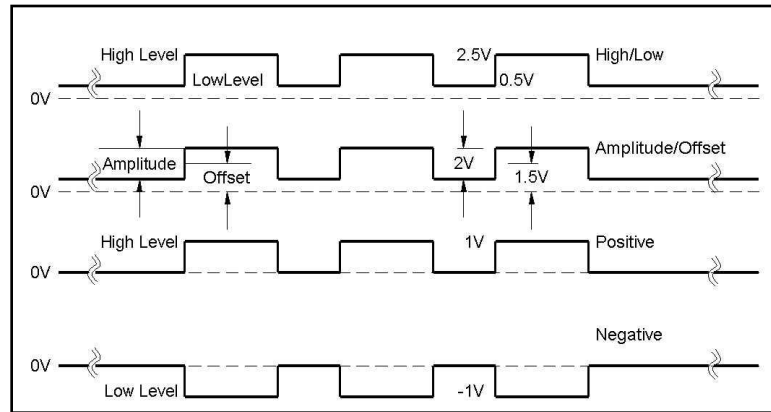

Figure 3-71, Amplitude Level Modes Options
Using the WX2184 as your pulse source, you have four options to set up the pulse levels, as shown in Figure 3-71 and explained below:
1. **High/Low Levels.** This is the default option. Using this mode, you can program the high and the low levels directly, while allowing the instrument to set the internal amplitude and offset according to your selection. The maximum amplitude that can be programmed is 4 V peak-to-peak. To achieve this level, program the low level to -1.5 V and the high level to +1.5 V. Note that the amplitude level is specified when the pulse is applied on a 50 Ω load impedance. The only way to exceed the peak-to-peak rail limitation is by increasing the load impedance, but then expect degradation of the pulse shape. The example in Figure 3-71 shows the high level set at 2.5 V and the low level set at 0.5 V and therefore, the resulting peak-to-peak level is 2 V.
2. **Amplitude/Offset.** This option allows separate modification of the amplitude and the offset. This option is very useful when you want to vary the vertical position of the pulse, but hold the peak-to-peak amplitude level fixed. The example in Figure 3-71 shows the amplitude set at 2.5 V and the low level set at 1.5 V and therefore, the resulting waveform is exactly as was programmed in the high/low level programming example.
3. **Positive.** This option is very useful when you want to vary the positive position of the pulse, but hold the low level fixed at the 0 V level. The example in Figure 3-71 shows the high level set at 1 V and the low level fixed at 0 V. Modification of the high level will not alter the low level position.
4. **Negative.** This option is very useful when you want to vary the negative position of the pulse, but hold the high level fixed at the 0 V level. The example in Figure 3-71 shows the low level set at -1 V and the high level fixed at 0 V. Modification of the low level will not alter the high level position.